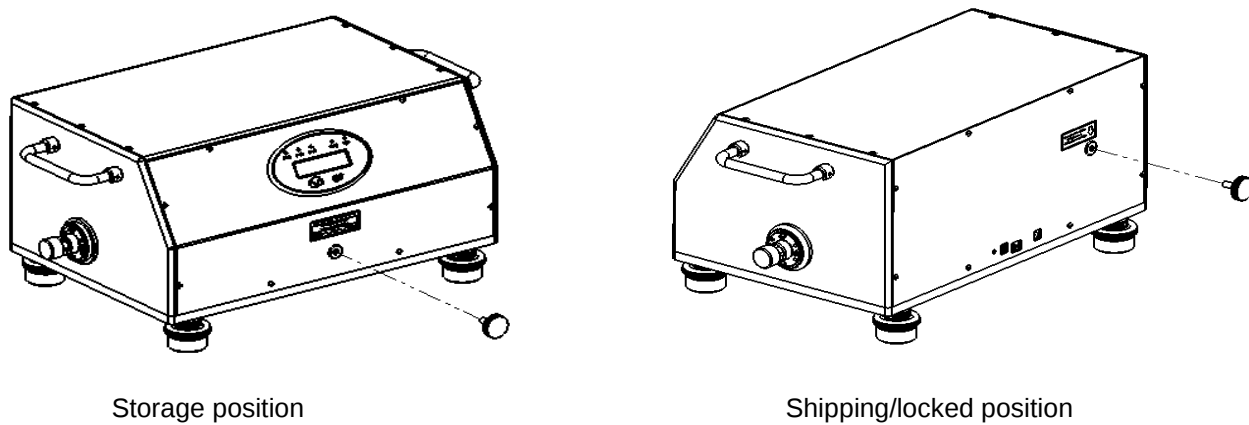

Figure A 2. Locking Screw Storage and Shipping Locations
- Remove the locking screw from its storage position on the front cover, and install it on the shipping position on the back of the tuner (See Figure A 2).